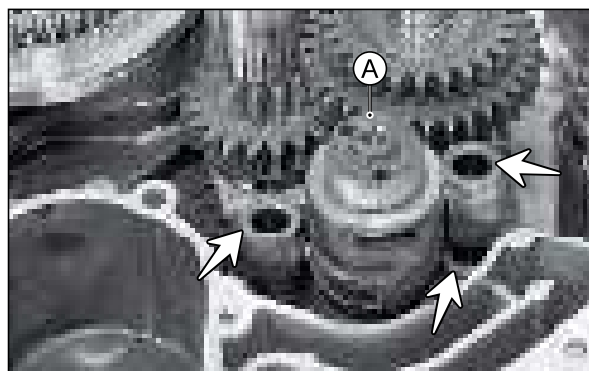

Fig. 3.153
- Dislocate the fork gear shift no.1, fork gear shift no. 2 and fork gear shift high speed from cam gear shift and take out the cam gear shift (A). (Fig. 3.153)